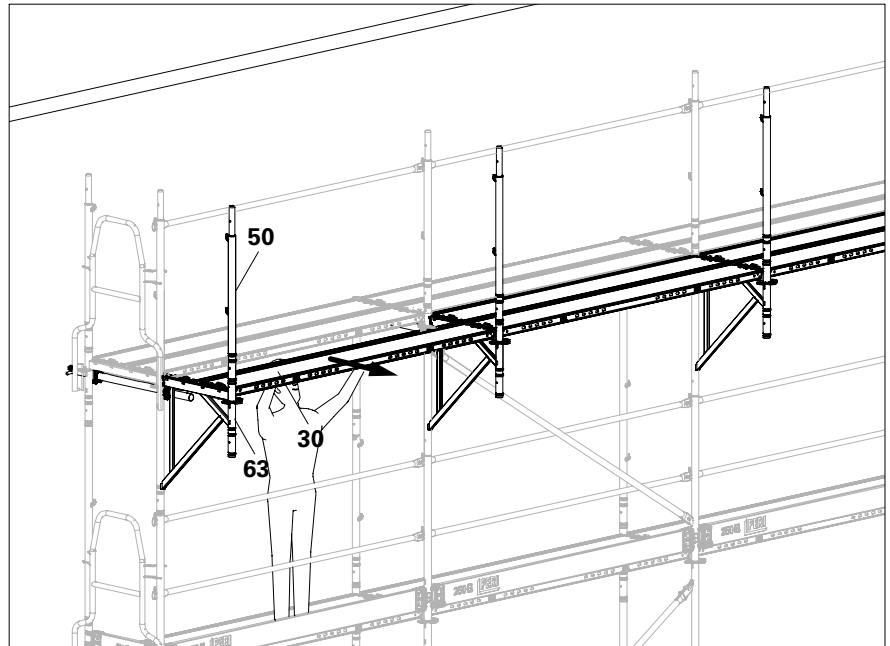
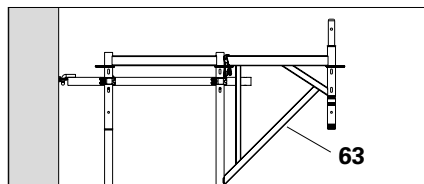

Fig. D1.13
Fig. D1.13a
- 1. Fit Console Bracket ECM (63) with Guardrail Post EVP (50). Secure the wedges. See "A6 System component: Console Bracket" on page 42 ff.
- 2. Fit the Outer Steel Decks EDS (30) and push outwards.
- 3. Fit the Inner Steel Decks into the console bracket. (Fig. D1.13)
- With Console Brackets ECM 67 (63) or Console Brackets ECM 100 (64), ensure that each frame column is anchored in the console bracket position:
- anchor every second frame column to the inner and outer legs of the vertical frames with a Wall Tie UWT (46). (Fig. D1.13a + D1.13b)
- In addition, anchor each frame column using a single-leg Wall Tie UWT in the level directly below for Console Brackets ECM 100 (64).
The 50 cm standards of the console brackets do not need to be anchored. The anchoring of the inner and outer legs is sufficient. (Fig. D1.13a – D1.13c)